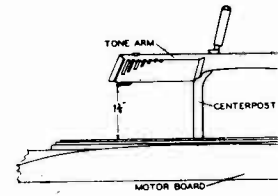

Figure 4
2. Turn the adjustment screw "A" until the sapphire is 1 3/8 inches above the turntable. This adjustment will permit the pickup to land and play one record placed on the turntable. At the same time it prevents the tone arm from touching the record resting on the centerpost while the mechanism is going through cycle. (If this height cannot be reached by the adjustment screw, take up on the cotter pin.) (Figures 4 and 5.)